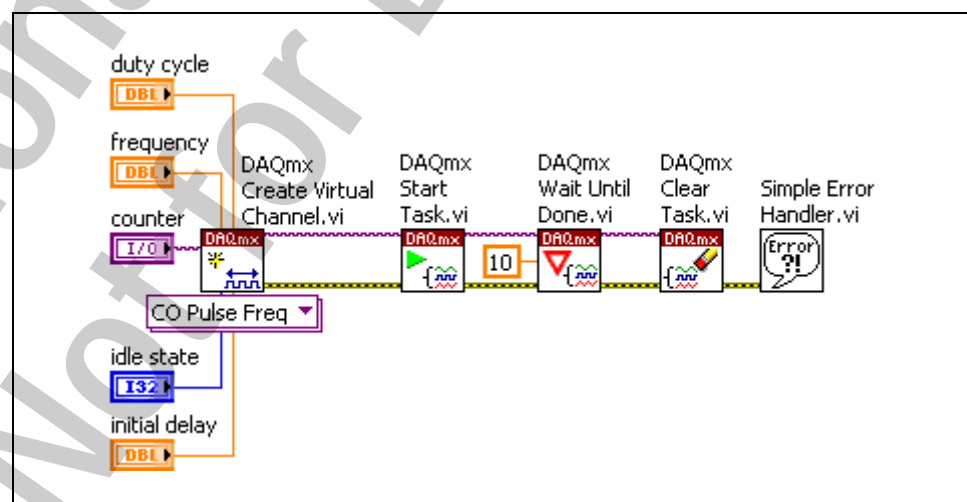

Figure 6-7. Single Pulse Generation VI Block Diagram
2. Modify the block diagram of the Single Pulse Generation VI to generate a single pulse, as shown in Figure 6-7, using the following items: